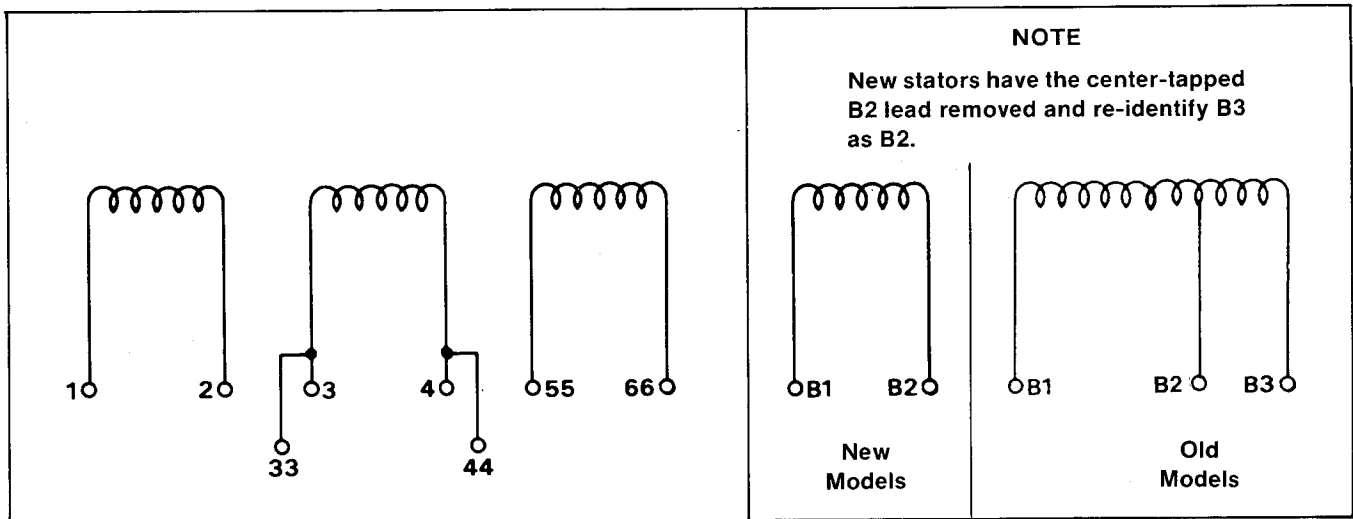

Figure 7-4. Generator Stator Leads
- Check for AC output across stator leads (reference Figure 7-4) and compare to readings in Table 6-2. If readings vary considerably with those in Table 6-2, a faulty stator is likely. Refer to "Component Testing."
ing meter leads to stator leads (Figure 7-4). Leads 1, 2, 3, and 4 are the generator output leads. Leads 33, 44, 55, and 66 are voltage regulator supply and sensing leads. Leads B1 and B2 are auxiliary voltage supply.